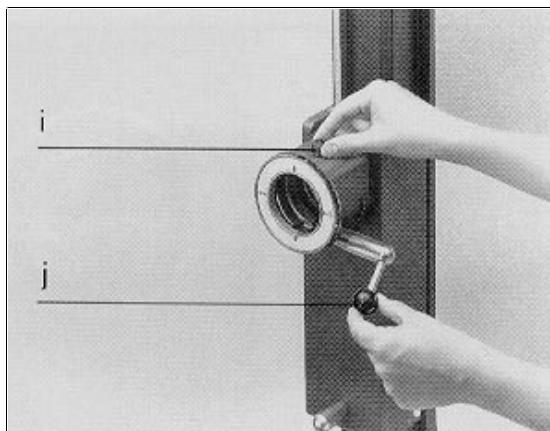

Figure 2-14. Locking Knob and Screw
- Loosen the know (i, figure 2-14) until it is in a vertical position. Also loosen screws (j) by about three full rotations.